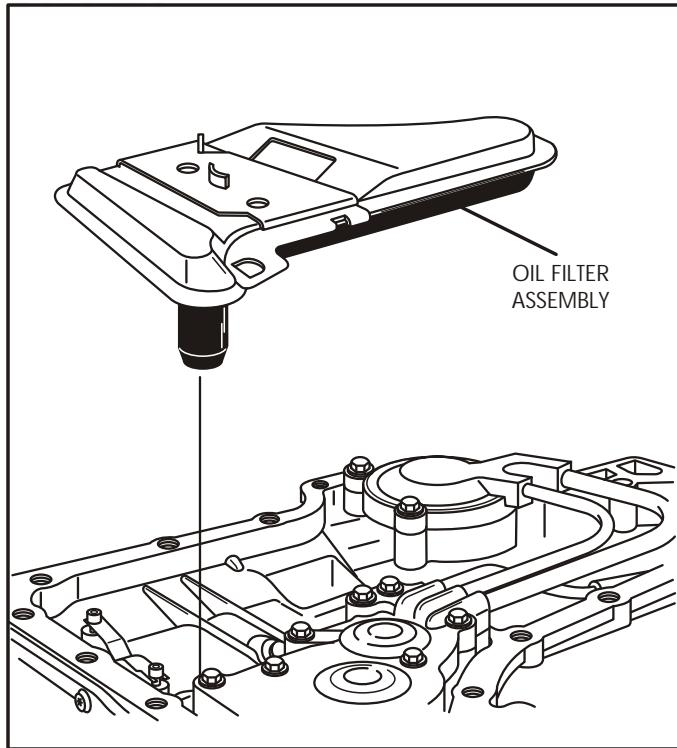

Figure 205
23. Install the bottom pan oil filter assembly into transaxle case as shown in Figure 205. Use a plastic mallet to **gently** tap the oil filter into the seal.